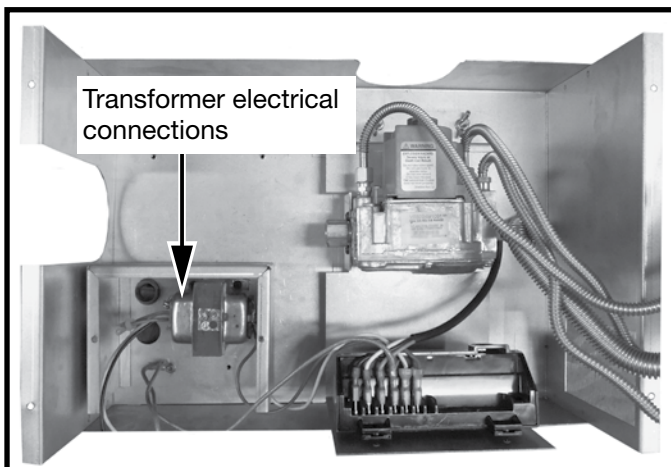

Figure 27: Transformer connections.
5. Run one 110 V. AC switched electrical supplies to the control box and connect to the transformer (Figure 27). The fireplace operates on 24V AC supplied by a transformer rated at 110 volts, 60Hz. See wiring diagram on page 36 for correct connections on terminal block.